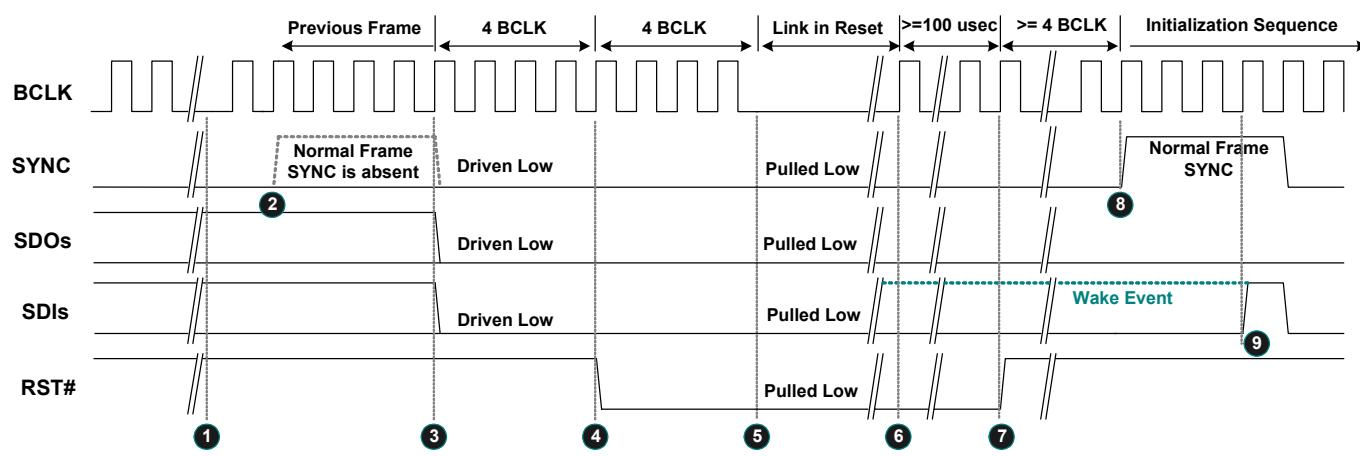

Figure 15. Link Reset Timing
3. Software initiates power management sequences. Figure 15, page 20, shows the ‘Link Reset’ timing including the ‘Enter’ sequence (1~5) and ‘Exit’ sequence (6~9)